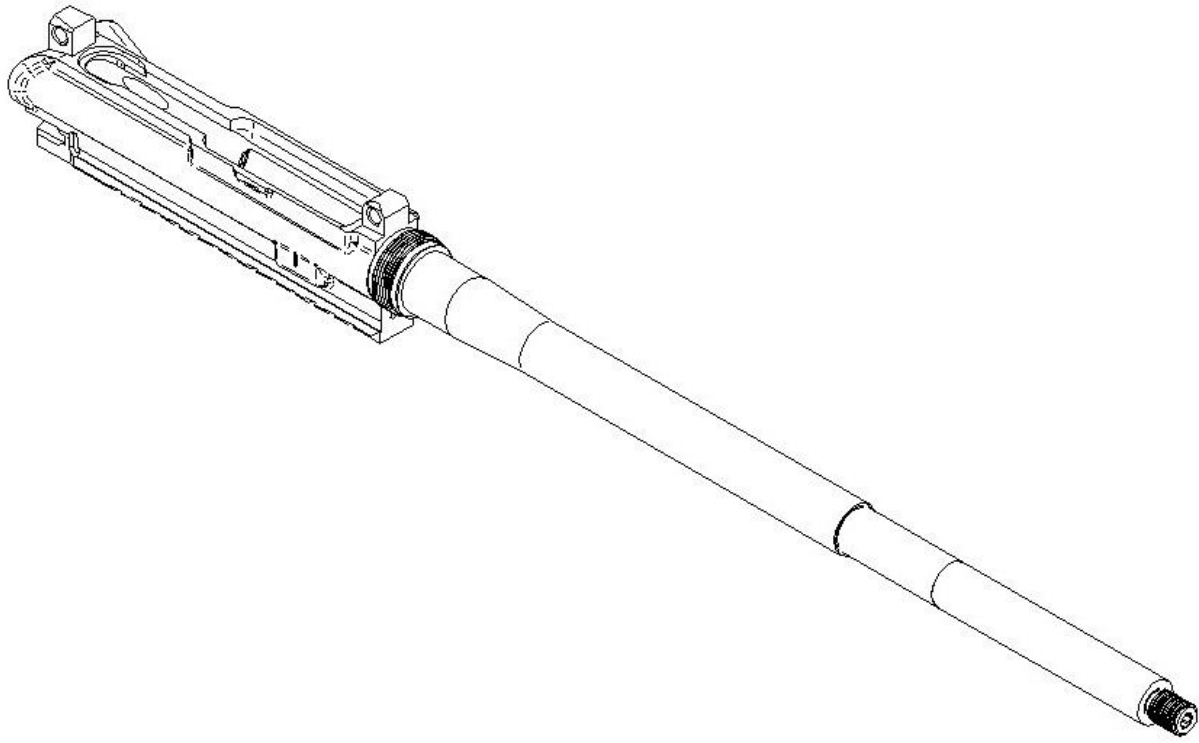

Fig. 1a
1. Start with an assembled AR-15 upper receiver and an installed barrel. (fig. 1a) This assembly should be held rigidly in a vice. Remove the gas block from the barrel. NOTE: This may require that you remove the flash hider if one is present.